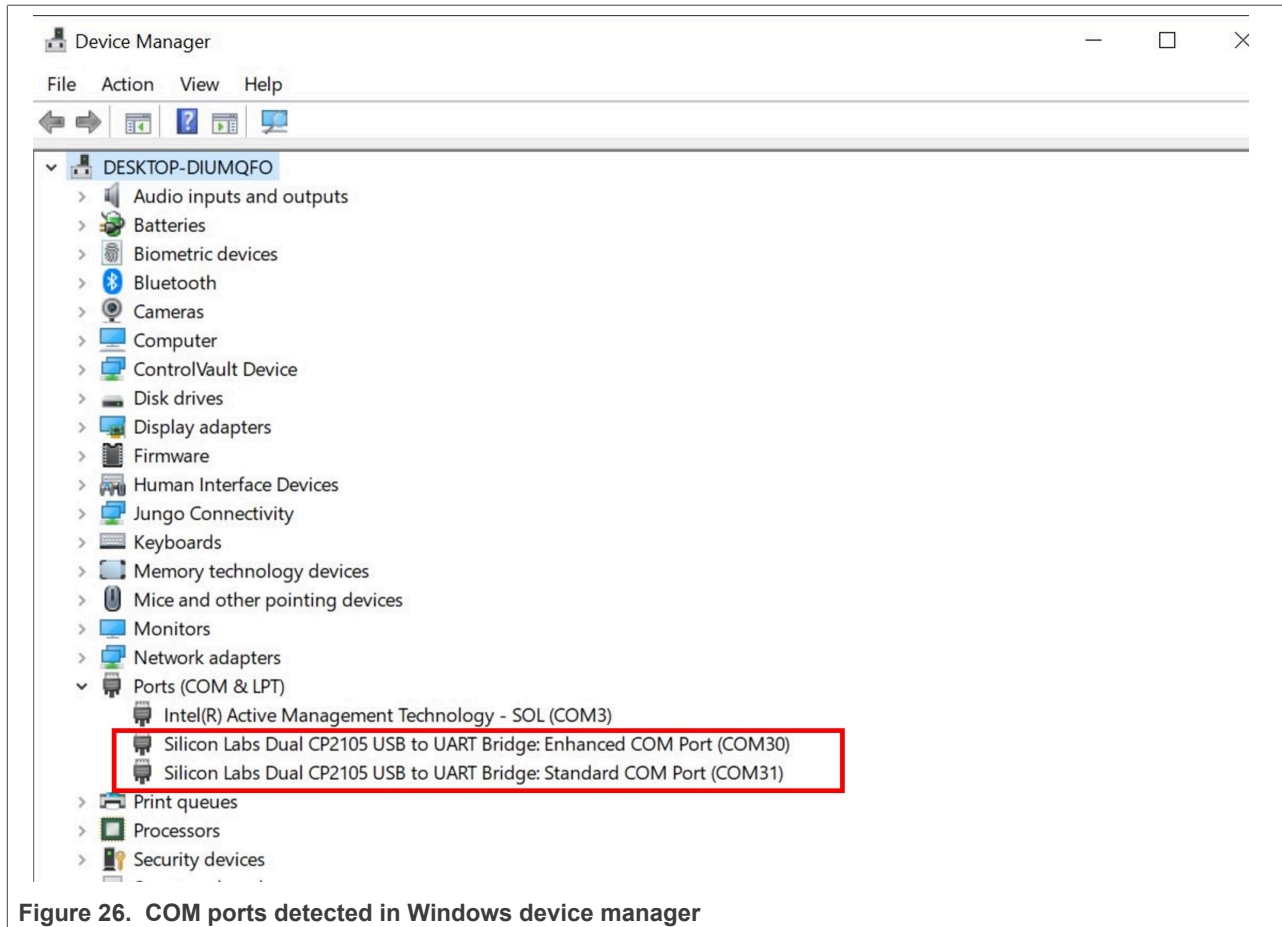

Figure 26. COM ports detected in Windows device manager
3. Connect the digital board to the PC using the *J1* micro-USB connector, then use the Windows device manager to check that the two COM ports of the digital board are correctly detected as shown in Figure 26. The *Enhanced COM port* is used for FreeMASTER communication, while the *Standard COM port* is used for printing debug messages.